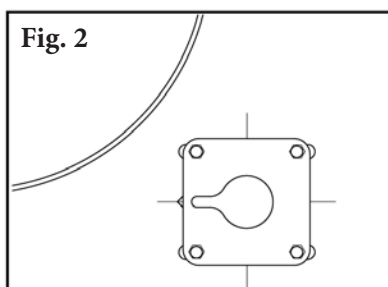

Fig. 2
3. **Install the mounting plates.** Bolt the mounting plates to the chute with bolts provided. Centre plates on the slotted holes and tighten bolts (Fig. 2).
2. **Remove the worn blade.** Remove one blade pin and remove the blade from the pole (Fig. 2). Clean all fugitive material from the pole.